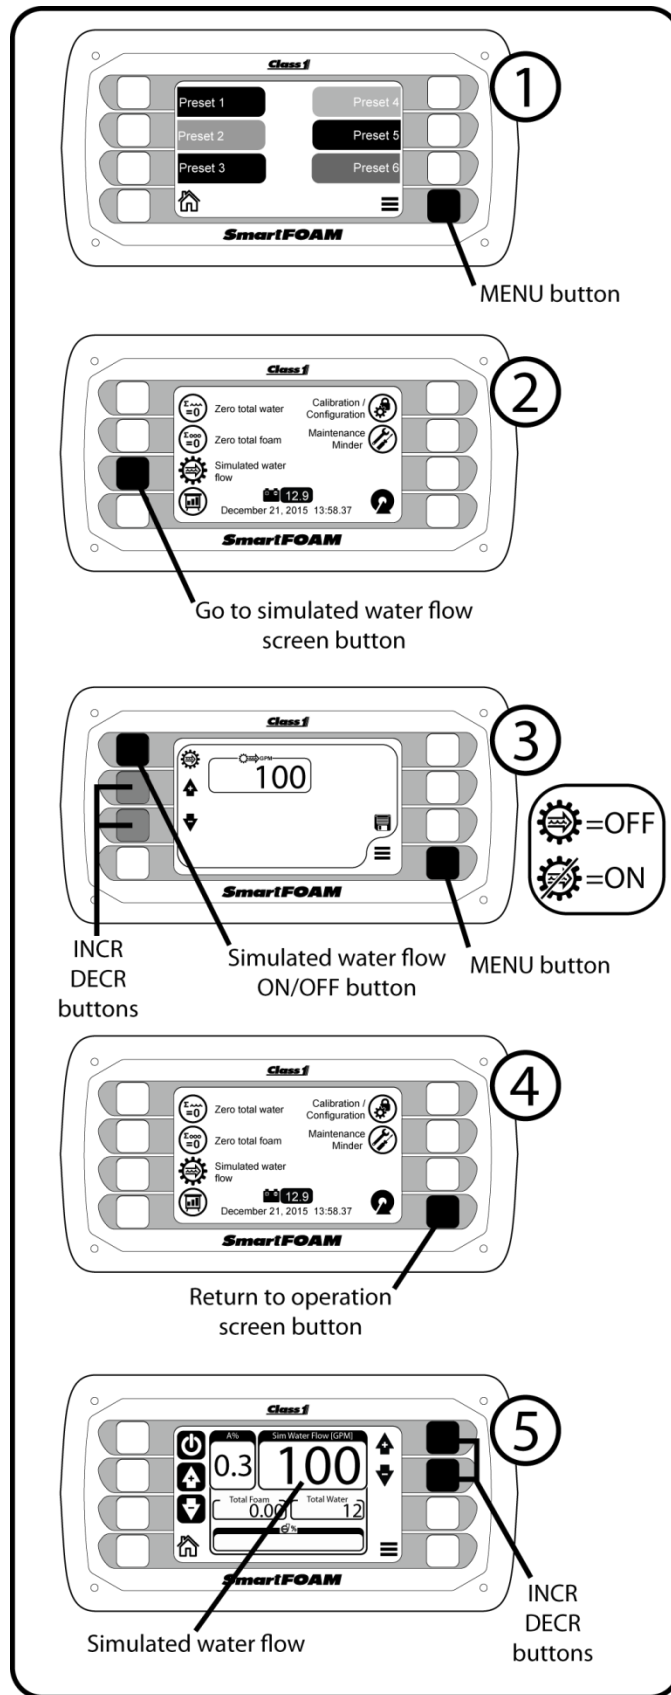

Figure 46: Setting Simulated Water Flow
7. Exit simulated water flow. Use the steps described in step 3 and Figure 46: **Setting Simulated Water Flow**.